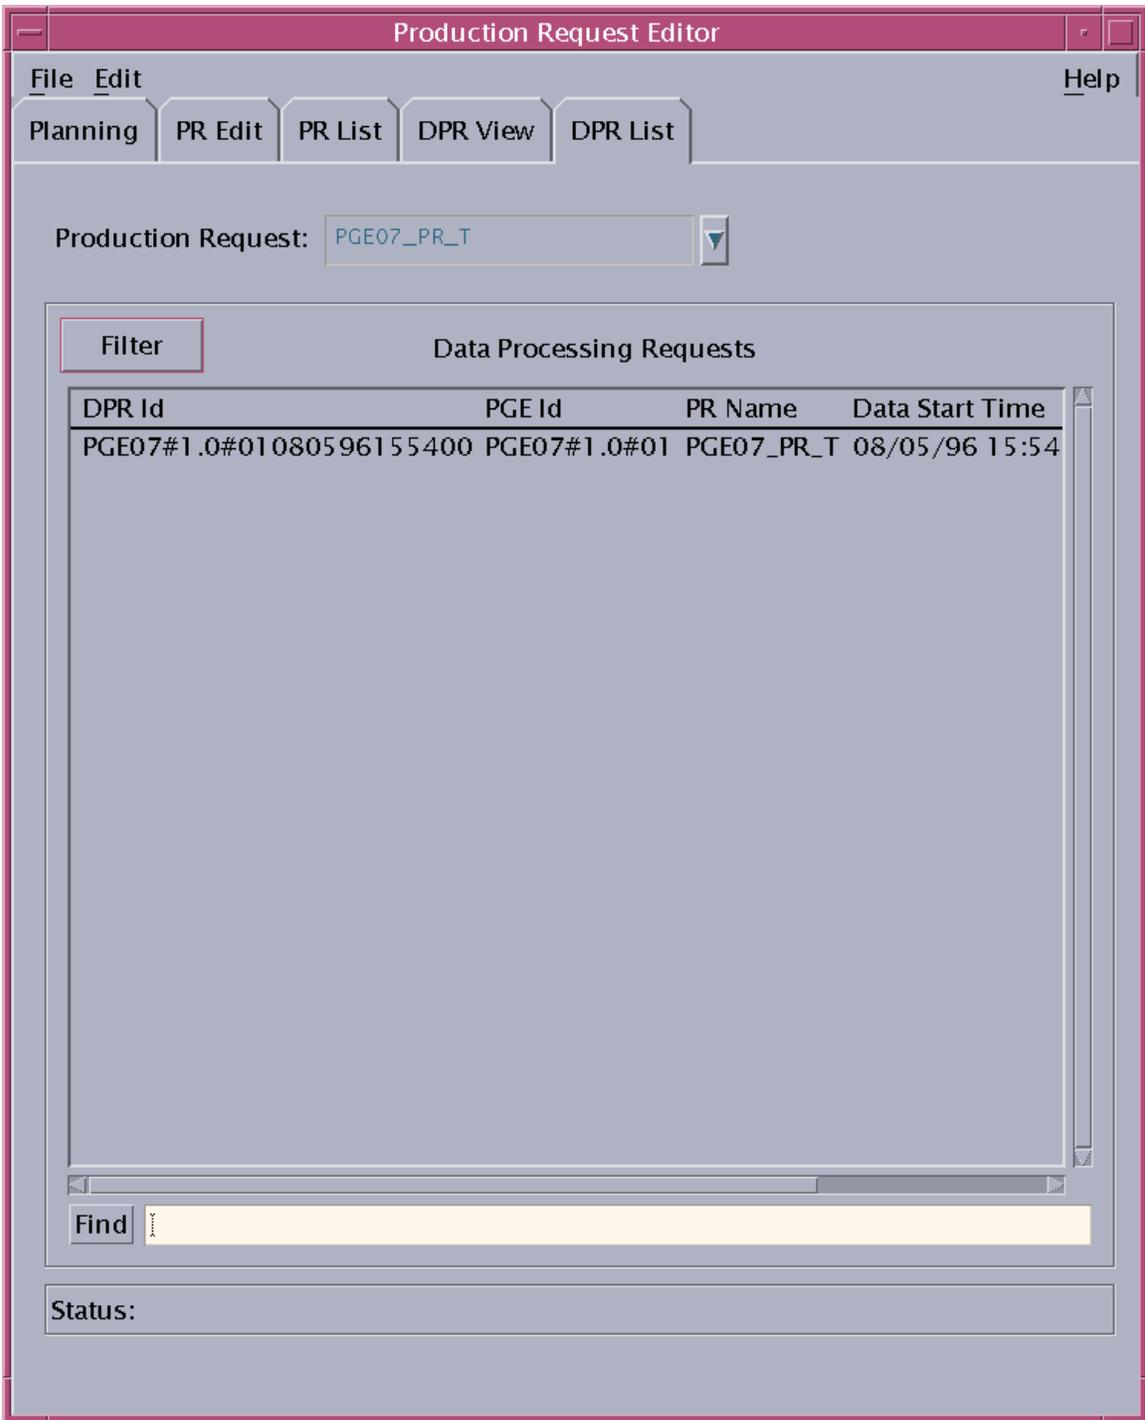

Figure 24. DPR List GUI
- The **DPR List** GUI page (Figure 24) is displayed.